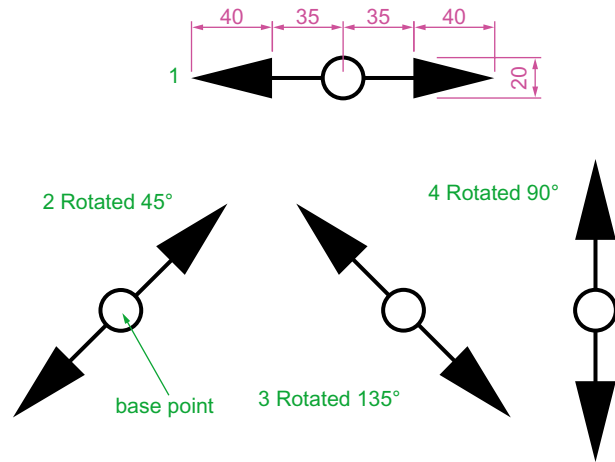

Fig. 5.27 Example – Rotate
Example – Rotate (Fig. 5.27)
1. Construct drawing **1** of Fig. 5.27 with **Polyline**. Copy the drawing **1** three times (Fig. 5.27).
3. Repeat for drawings **3** and **4** rotating as shown in Fig. 5.27.